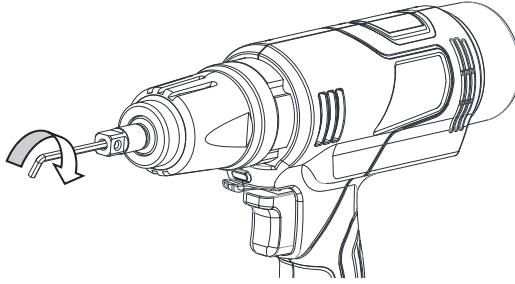

Fig. 3
2. Insert an Allen key (3mm) in the hole to adjust the relief valve as the following Fig. 3 to increase the oil pressure or decrease the oil pressure. Turn in clockwise smoothly for rise the torque, turn in counter clockwise for decrease the torque.